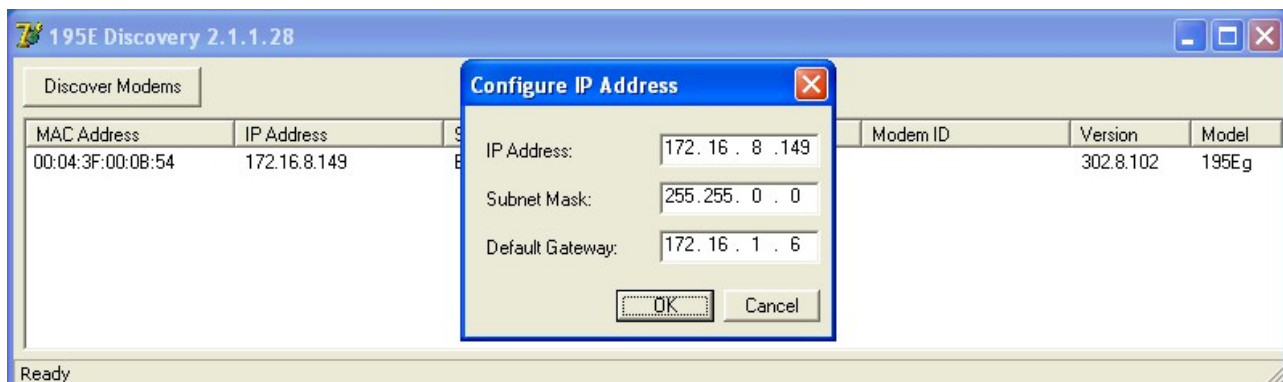

Figure 5: Change IP Address Window
5. Double-click on the 195C/M you want to program and the *Configure IP Address* window will be displayed (Figure 5). Enter an IP address and Subnet Mask for the 195C/M that matches your network subnet and press the OK button to save this to the ESTeem. You will receive notification that the Configuration was Successful and the 195C/M will reboot.